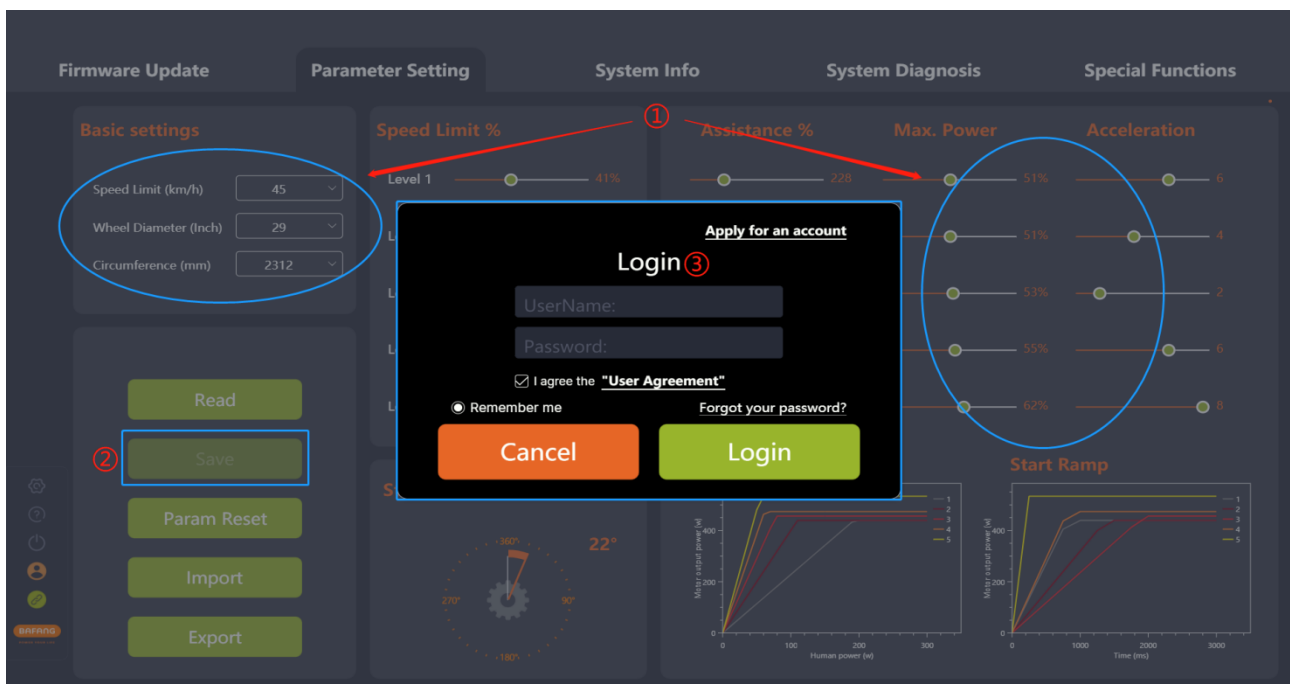

Fig. 5-13 Login
- (1) After reading successfully, adjust the parameters on the right side by pulling the slider.
- (2) Click the "Save" icon, and current parameters are saved to the controller.
- (5) If you are not logged in, the "Login" interface will pop up, prompting you to log in (Fig. 5-13).